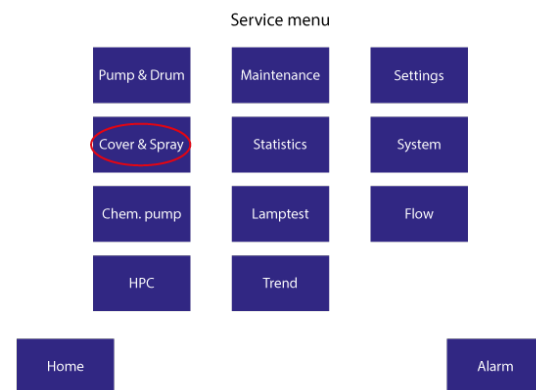

Figure 7.5 Service menu.
2. Select “Login” (if the user is not already logged in) and log in using your user name and password, see Figure 7.5 below.
4. Select “Cover & Spray”, see Figure 7.5.